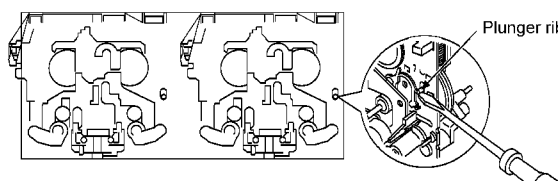

Fig. 14-3.
3. Lift up the plunger rib of mechanism ass'y with the tip of minus screwdriver, and then operate it same as power supply duration. (Refer to Fig. 14-3.)